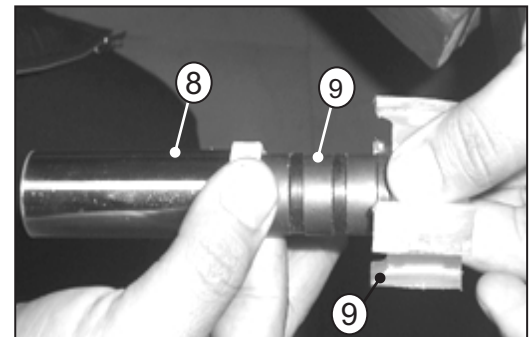

Fig. 5.16d
**IMPORTANT:** Do not dismantle the magnets (9) as these are assembled in polarity sequence and it should not be disturbed (fig. 5.16d).